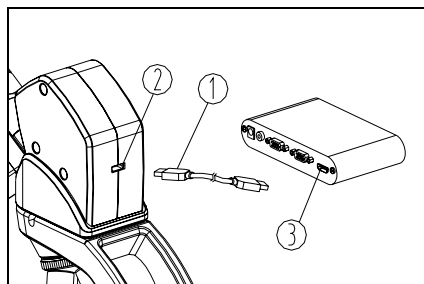

Fig.20
Insert the connector ① of HDMI cable into the HDMI interface ② on the back of microscope head, view the real time image by connecting the other end to the control and convert device ③ (See Fig.20) and use binocular observation (Only for HDMI digital microscope.)